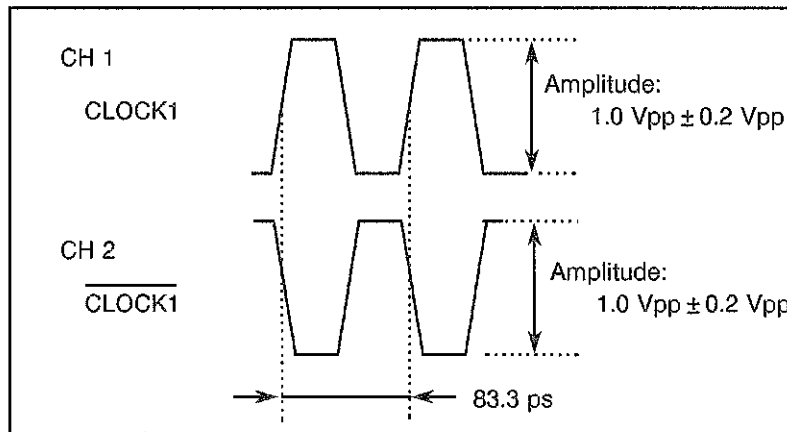

Figure 8-13 CLOCK1,  $\overline{\text{CLOCK1}}$  Output Waveform (AC,  $f = 12000 \text{ MHz}$ )
- (7) Normal when the waveform is a rectangular wave as shown in Figure 8-13.